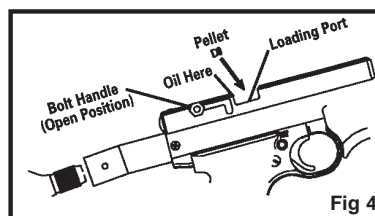

Fig 4
- tip of the bolt should be visible in the breech. (Figure 4)
- Push bolt handle up and pull all the way back until you hear two clicks. (Fig. 4)
- With the bolt in the open position, place one pellet, nose first, into the loading port (breech) (Fig. 4). This is a single shot pellet airgun. Load no more than one pellet at a time.
- Open the bolt. (See Section 4A) (Fig. 4)
- Your airgun will work best if you oil it every 250 shots. Put a drop of our Crosman #0241 Lubricating Oil directly on the tip of the AirSource CO₂ cartridge before inserting and on o-ring located on the bolt (Fig. 4) Do not over-oil as this can cause damage to your airgun. DO NOT use gun oil or any other oil which contains solvents. External metal surfaces should be wiped with a lightly oiled cloth after each use.